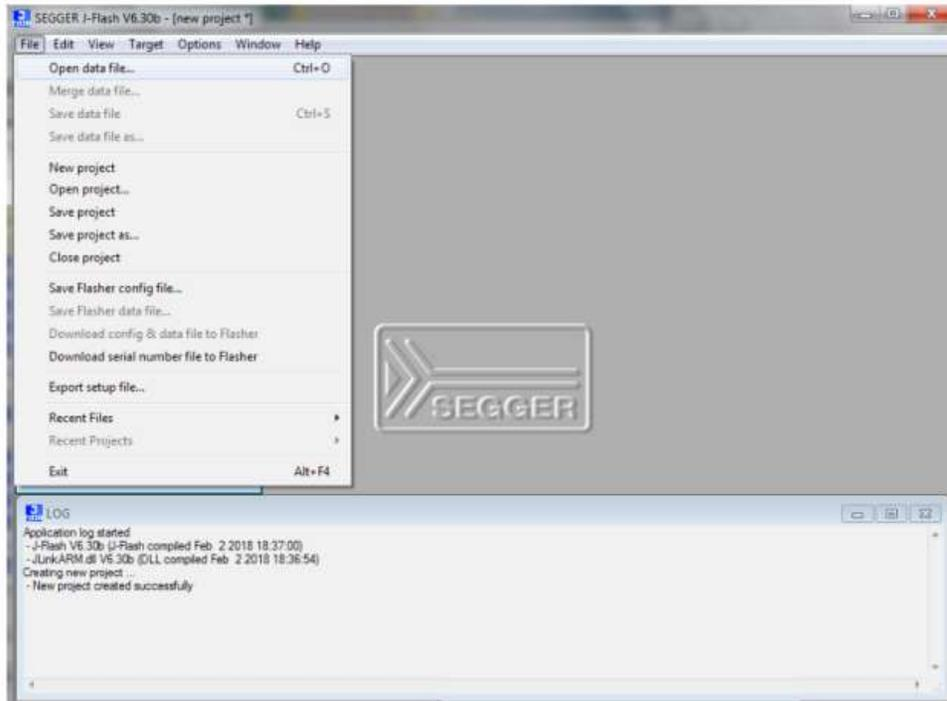

Figure 22: Open data file [LoadFile\_1]
8. Click “File” (on the top ribbon) and select “Open data file” on the pop-up (Figure 22,  STMA-69138).